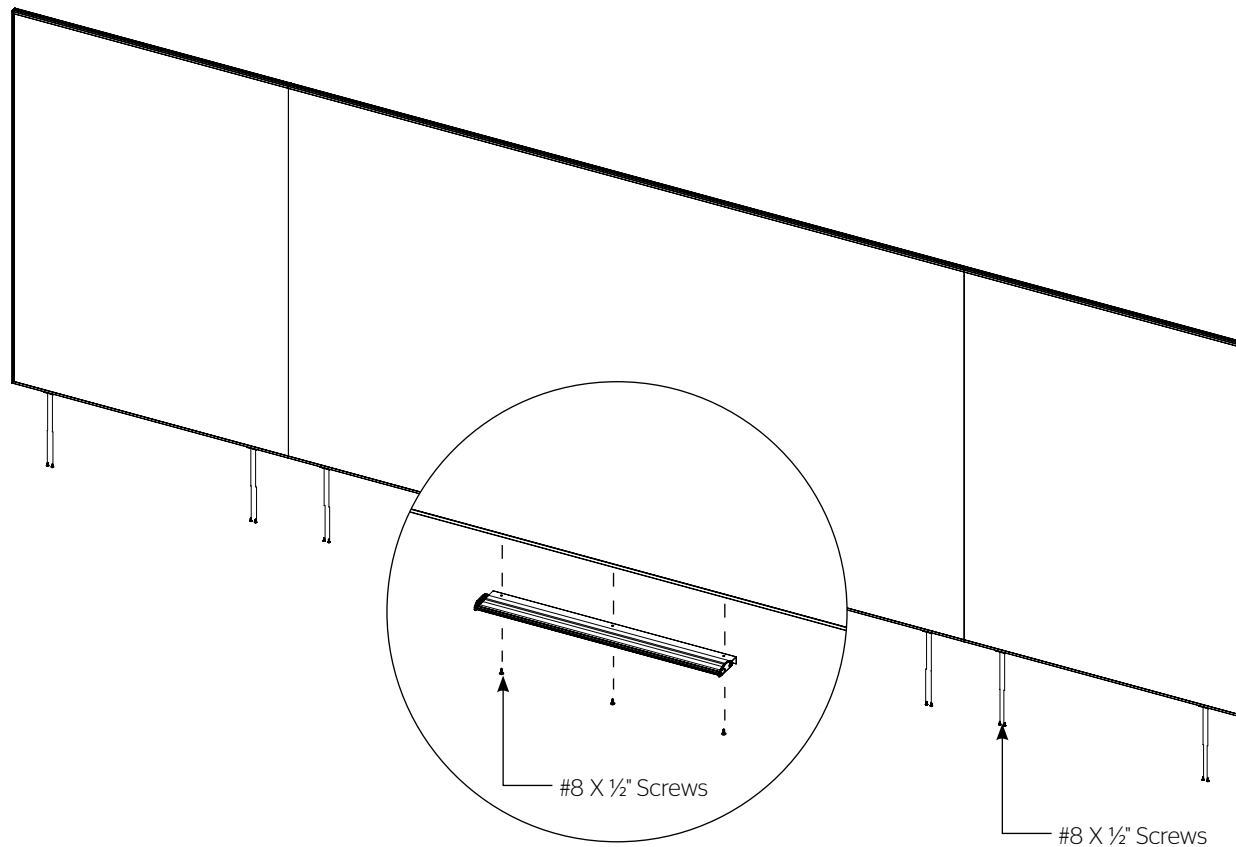

Figure 4
5. Repeat Steps 3-4 to install the (4) remaining L-brackets for the side panels.
8. Center the aluminum tray to the bottom of the center panel frame and attach with (3) of the provided #8 x 1/2" screws. Insert screws through the tray into the groove (Figure 4).
9. Tap the bottom of the six L-brackets with the rubber mallet until they make contact with the frame. Secure the six L-brackets to the frame with the remaining (12) #8 x 1/2" screws (Figure 4).